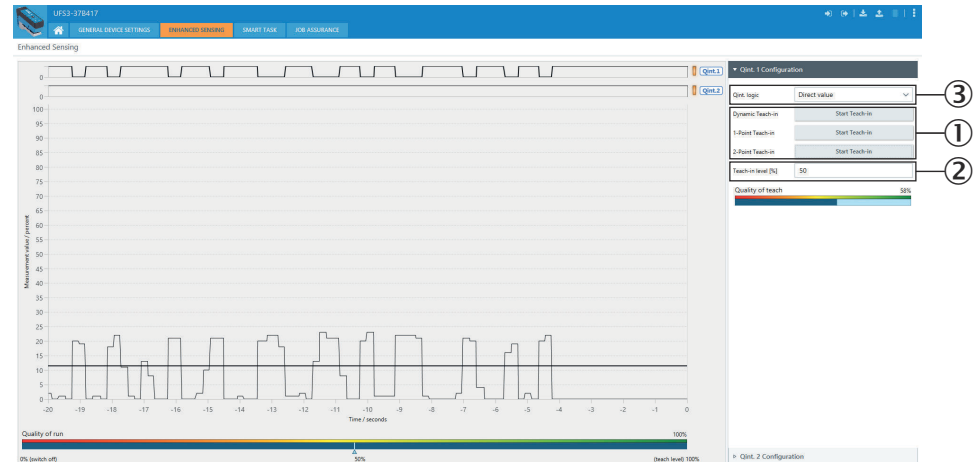

Figure 3: “Enhanced Sensing” tab
The teach-in mode can be selected and run on the “ENHANCED SENSING” tab, (see figure 3, page 23, number ①).
After a teach-in has been performed, the switching threshold value can be adjusted in 5% increments in both directions using the “Teach-in level” field (see figure 3, page 23, number ②).
The switching logic is set by selecting either the direct or inverted signal (see figure 3, number ③).